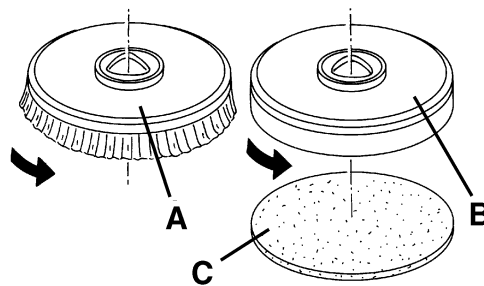

Figure 2
1. According to the kind of cleaning to be performed, the machine can be equipped either with the brush (A, Fig. 2) or the pad-holder (B) with pad (C) together with the appropriate deck.
2. (Only for **RAZOR 20T**): Insert the ignition key (80) and turn it to "0".